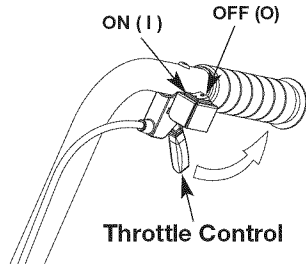

Fig. 8
NOTE: There is no need to turn the unit on. The On/Off Control is in the **ON (I)** position at all times (Fig. 8).
2. Press and hold the On/Off Control in the **OFF (O)** position until the unit comes to a complete stop. (Fig. 8)
NOTE: There is no need to turn the unit on. The On/Off Control is in the ON (I) position at all times (Fig. 8).
2. Press and hold the On/Off Control in the OFF (O) position until the unit comes to a complete stop. (Fig. 8)